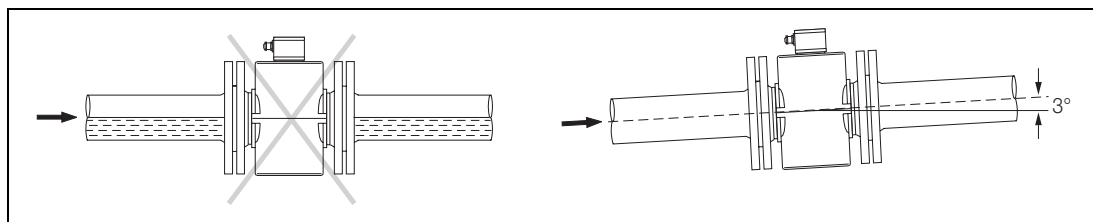

Fig. 9: Installation in a Horizontal Pipeline
- A slight slope in the pipeline aids in degassing see Fig. 9